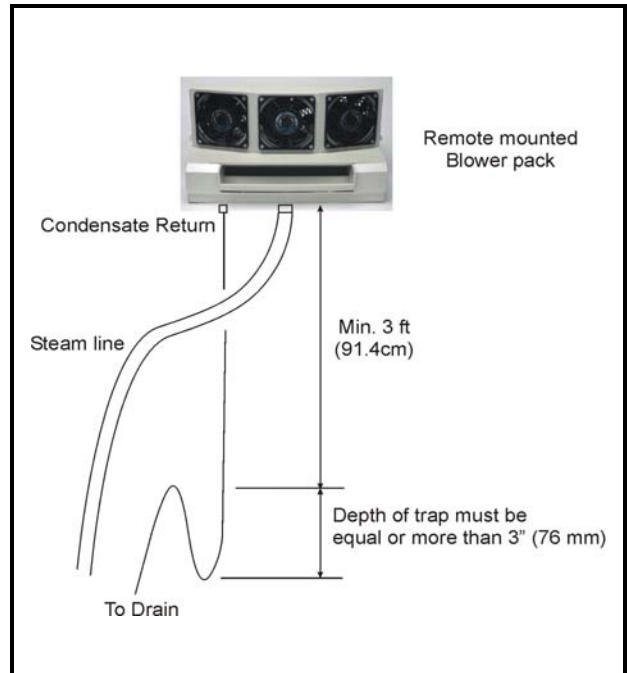

Figure 6. Condensate Return Line Trap
- (1) NORTEC blower packs have built-in connections for draining off condensate. These condensate lines must be connected to the nearest floor drain, back to the unit (NHTC & NHPC, NHRS only) or a condensate pump when using short condensate runs.
- (2) Always incorporate a trap in routing of condensate return lines. Condensate that accumulates in trap will prevent possibility of steam escaping. Depth of the trap must be equal or more than 3" (76 mm) See Figure 6 Condensate Return Line Trap.
- (3) Ensure the trap is at least 3 feet (1 m) below the blower pack and as close to the floor drain as possible.